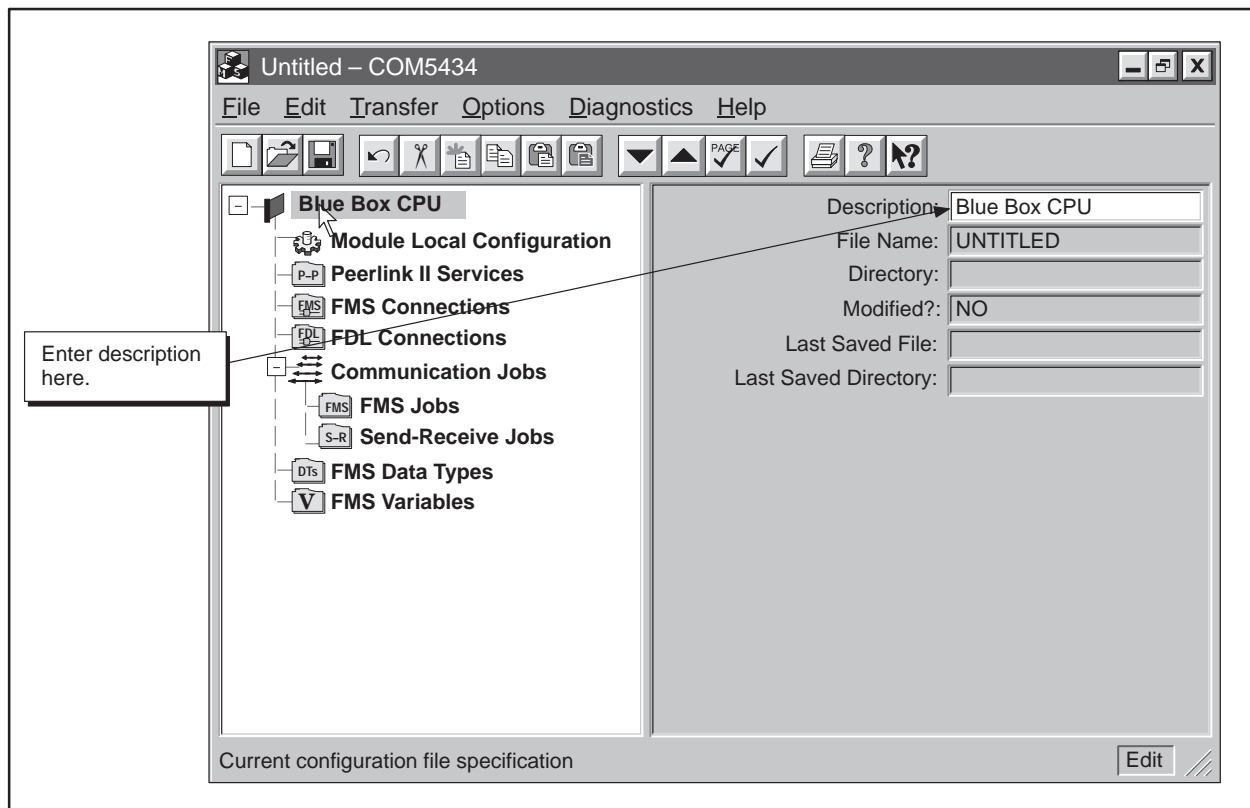

Figure 6-21 Creating a Configuration File Example
2. Enter a description for this file in the Description field, as shown below (and in Figure 6-21):